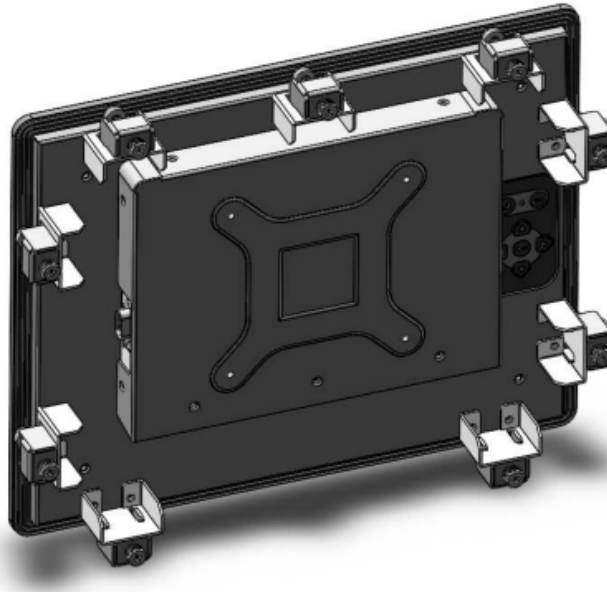

Figure 4-15: Panel Mounting Clamp Position
- Step 4:** Secure the panel mounting brackets to the rear of the monitor and insert the panel mounting clamps into the pre-formed holes along the two edges of the panel mounting brackets (**Figure 4-15**).
- Step 2:** Secure the panel mounting brackets to the rear of the monitor and insert the panel mounting clamps into the pre-formed holes along the two edges of the panel mounting brackets (**Figure 4-15**).